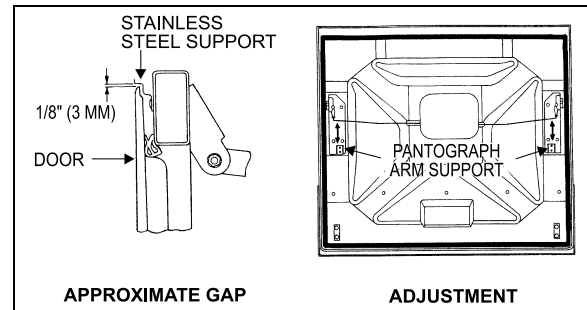

FIGURE 54: BAGGAGE COMPARTMENT DOOR 18064
- Unscrew and remove both striker pins. Loosen bolts retaining door to pantograph and balance arm supports. With door closed, adjust height so the top of the door fits flush with the adjacent doors. Then, complete tightening the four bolts retaining door to each pantograph arm support. A gap of $1/8$ " (3 mm) between the top of the door and the stainless steel support is given as a guide (Fig. 54).